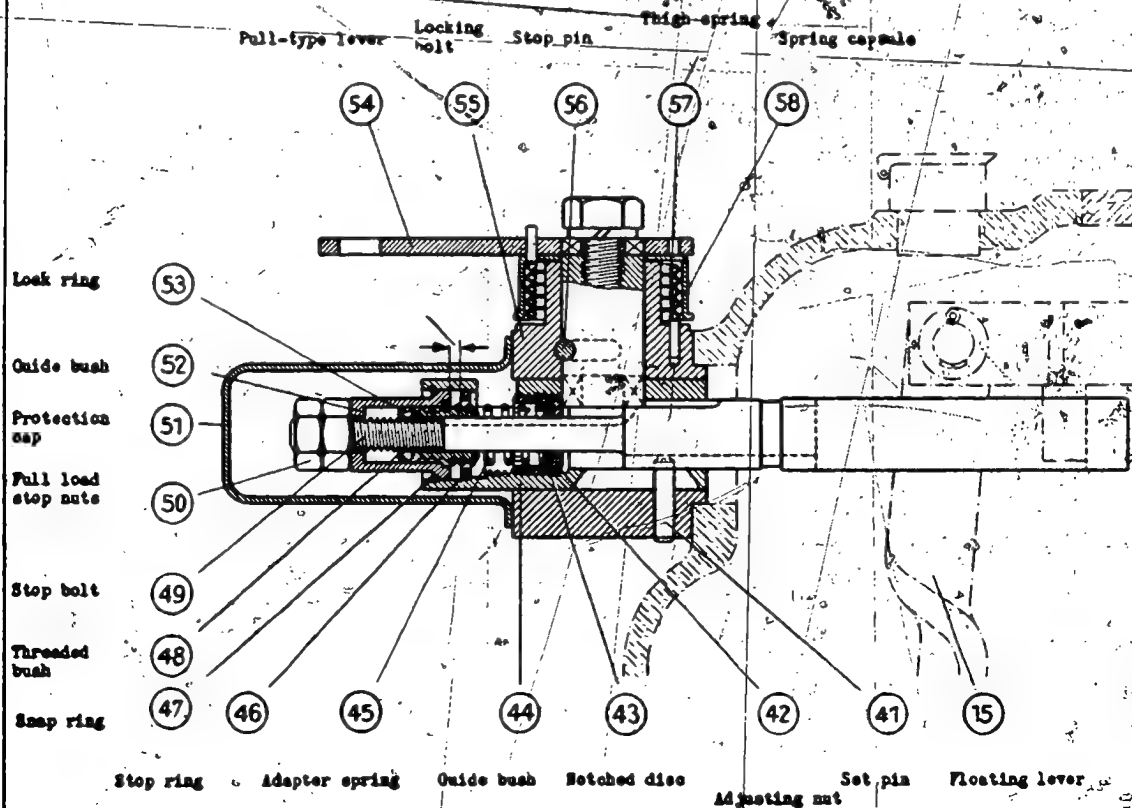

Fig. 15 Sectional view of control rod stop with assimilating device
H) Control rod stop (see Fig. 15)
11. Fill up with good quality engine oil or, Oil 1 v 10 through the flap-covered lubricator, until the oil emerges at the screw plug (5).
D) Control rod stop with adapting device (see Fig. 15)